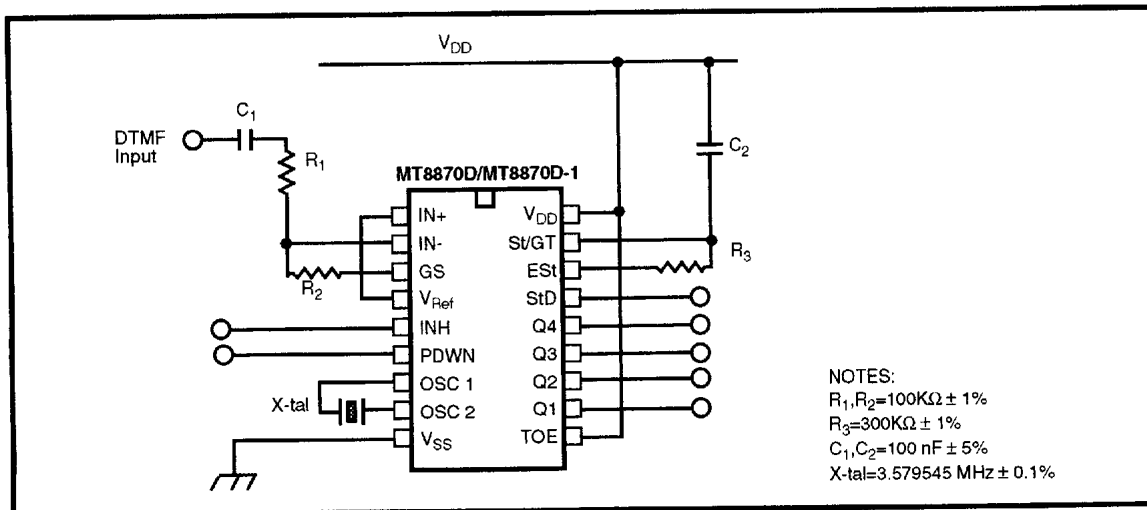

Figure 10 - Single-Ended Input Configuration
**MT8870D AC Electrical Characteristics** -  $V_{DD}=5.0V \pm 5\%$ ,  $V_{SS}=0V$ ,  $-40^{\circ}C \leq T_O \leq +85^{\circ}C$ , using Test Circuit shown in Figure 10.
**MT8870D-1 AC Electrical Characteristics** -  $V_{DD}=5.0V\pm5\%$ ,  $V_{SS}=0V$ ,  $-40^{\circ}C \leq T_O \leq +85^{\circ}C$ , using Test Circuit shown in Figure 10.
12. Referenced to Fig. 10 input DTMF tone level at -25dBm (-28dBm at GS Pin) interference frequency range between 480-3400Hz.
**AC Electrical Characteristics** -  $V_{DD}=5.0V\pm5\%$ ,  $V_{SS}=0V$ ,  $-40^{\circ}C \leq T_o \leq +85^{\circ}C$ , using Test Circuit shown in Figure 10.